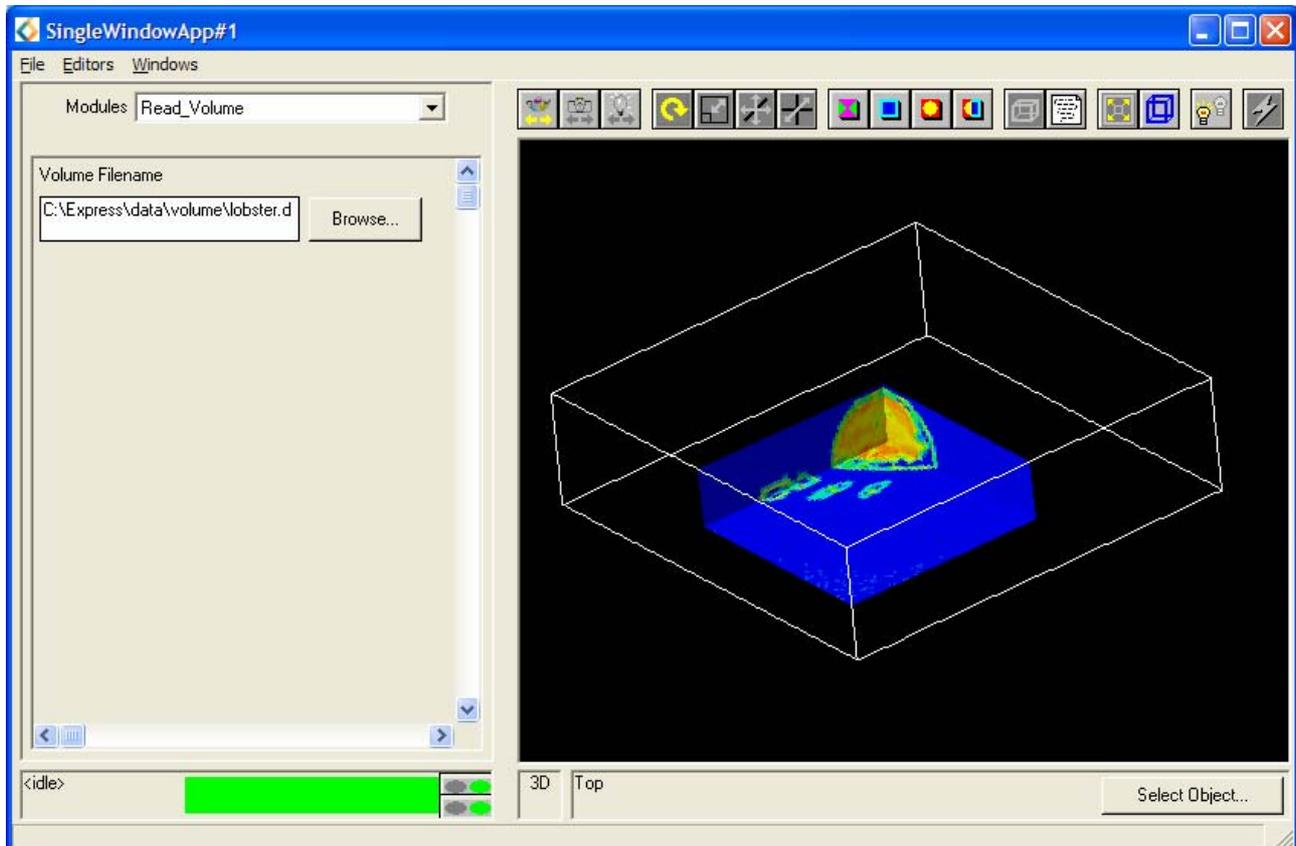

Figure 4.24: lobster.dat using excavate\_brick3D
- Using the mouse, transform the object so it appears similar to that shown in Figure 4.24.